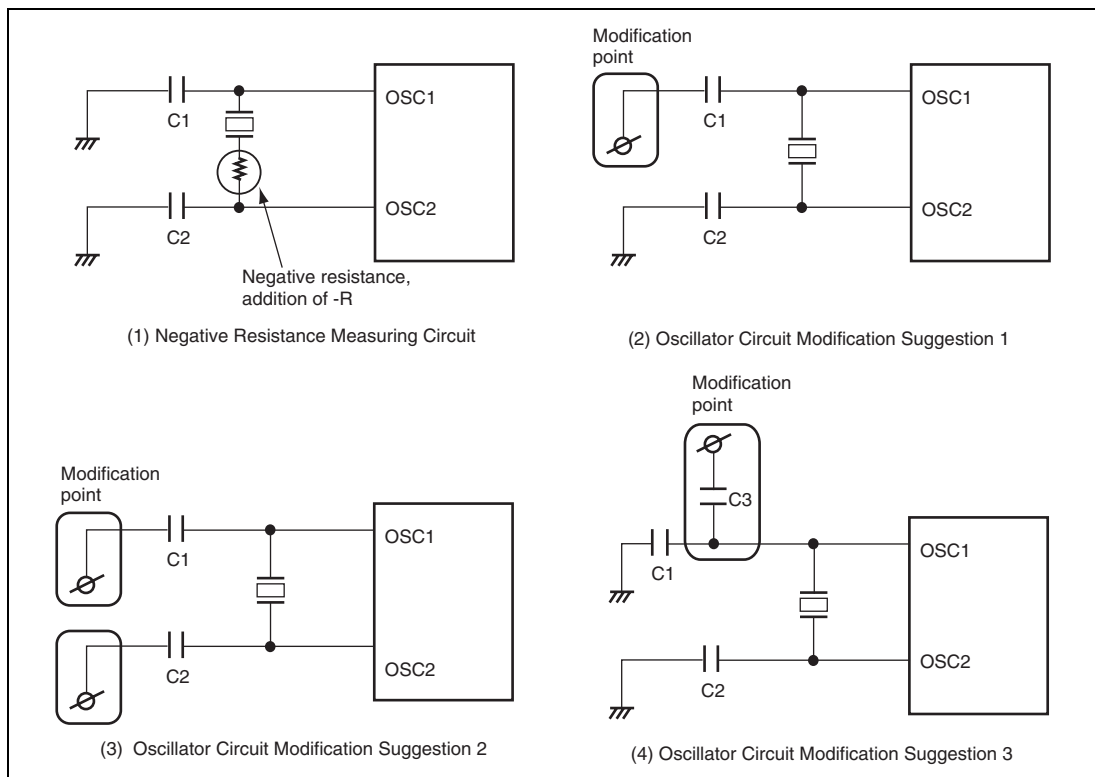

Figure 4.10 Negative Resistance Measurement and Circuit Modification Suggestions
Figure 4.10 (1) shows an example measuring circuit with the negative resistance recommended by the resonator manufacturer. Note that if the negative resistance of the circuit is less than that recommended by the resonator manufacturer, it may be difficult to start the main oscillator.
If it is determined that oscillation does not occur because the negative resistance is lower than the level recommended by the resonator manufacturer, the circuit must be modified as shown in figure 4.10 (2) through (4). Which of the modification suggestions to use and the capacitor capacitance should be decided based upon evaluation results such as the negative resistance and the frequency deviation.